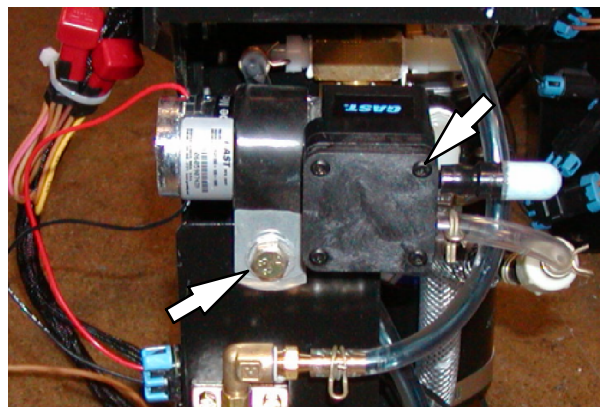
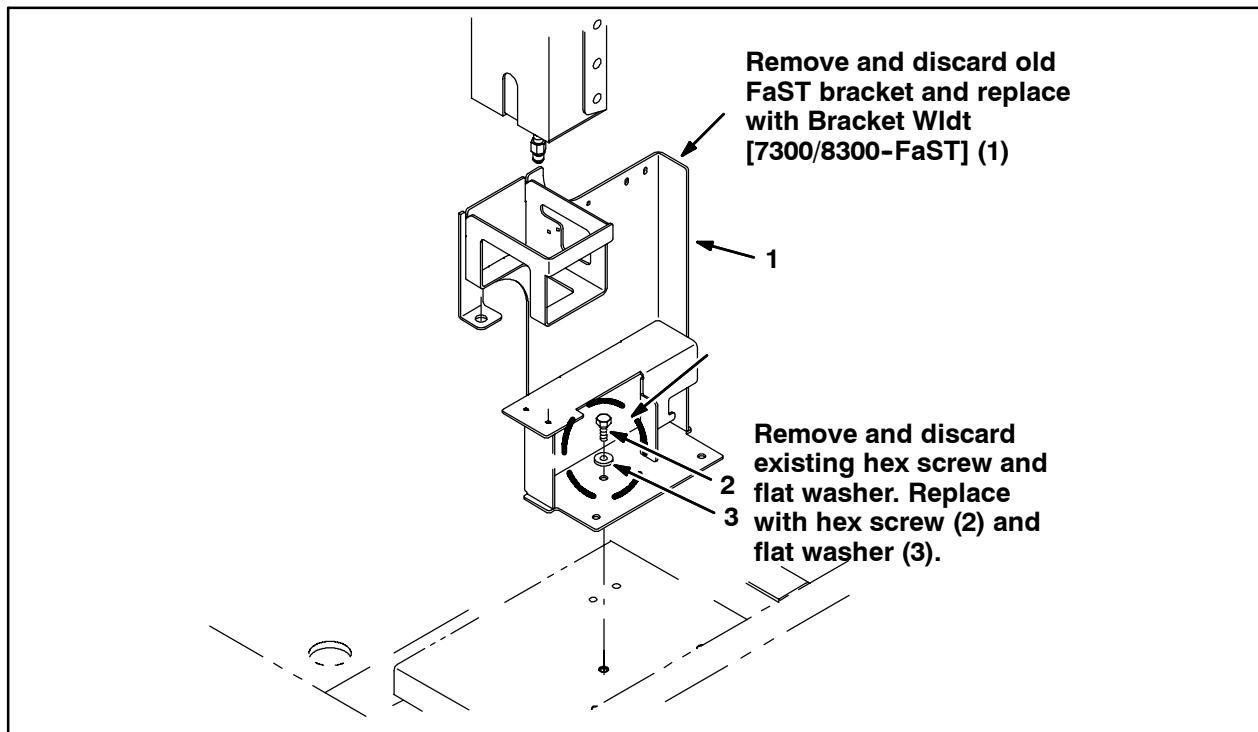

FIG. 11
FIG. 12
NOTE: Refer to Fig. 1 through Fig. 12 for locations and orientation of parts and components installed onto the new FaST bracket (1).
13. If necessary, use PVC hoses (4), (5), and (6) to replace any damaged or worn hoses attached to the FaST solution pump group and FaST air pump and detergent group.
14. Loosen the fastener on the bracket, rotate the FaST air pump 90° counter clockwise, and retighten the fastener. Refer to Fig. 11.